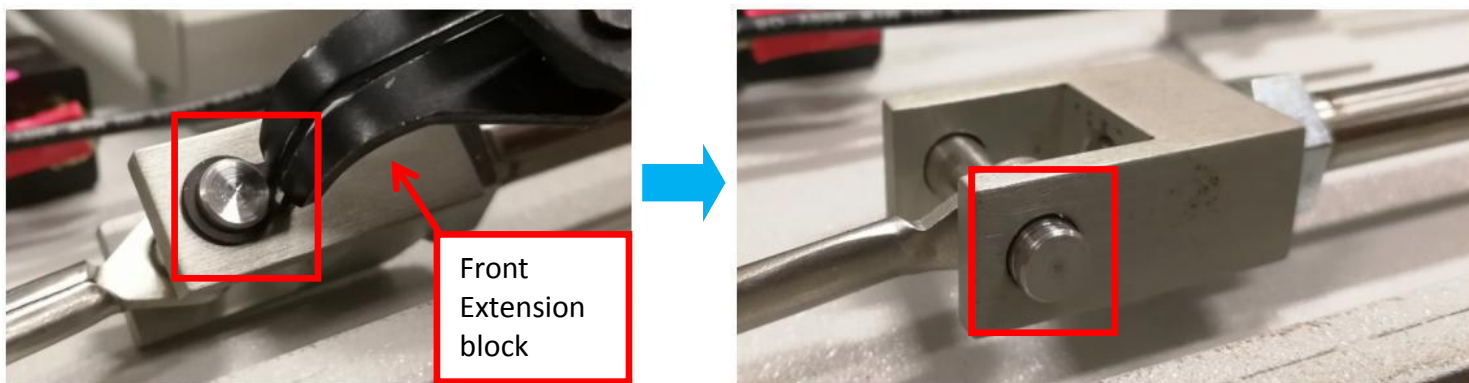

Figure 6
10. By using C-Clip Plier ,open 1 x C-Clip from dowel pin as Figure 6